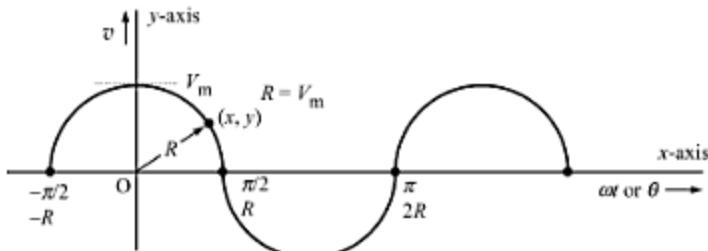

Fig. C-3 The voltage wave shape.
**Solution** Figure C-3 shows the given ac voltage wave, taking voltage  $v$  along  $y$ -axis and angle  $\omega t$  along  $x$ -axis. For convenience, the centre of the first (positive) semicircle is taken at the origin  $O$ . Obviously,  $V_m$  is same as the radius  $R$  of the circle. Any point  $(x, y)$  on the semicircle is then given by